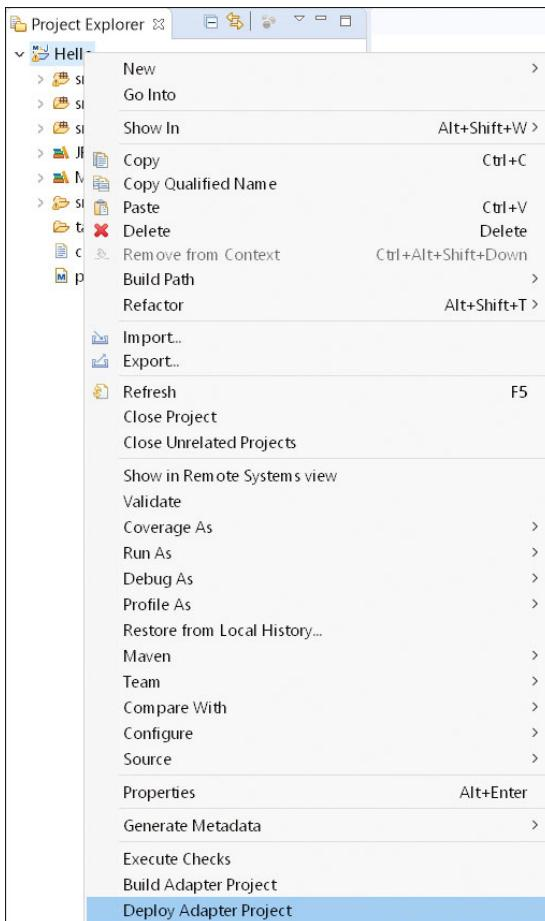

Figure 6.102 Deploy Adapter Project
2. After the success message appears, select again the root node of the project, and choose **Deploy Adapter Project** in the context menu (see Figure 6.102).